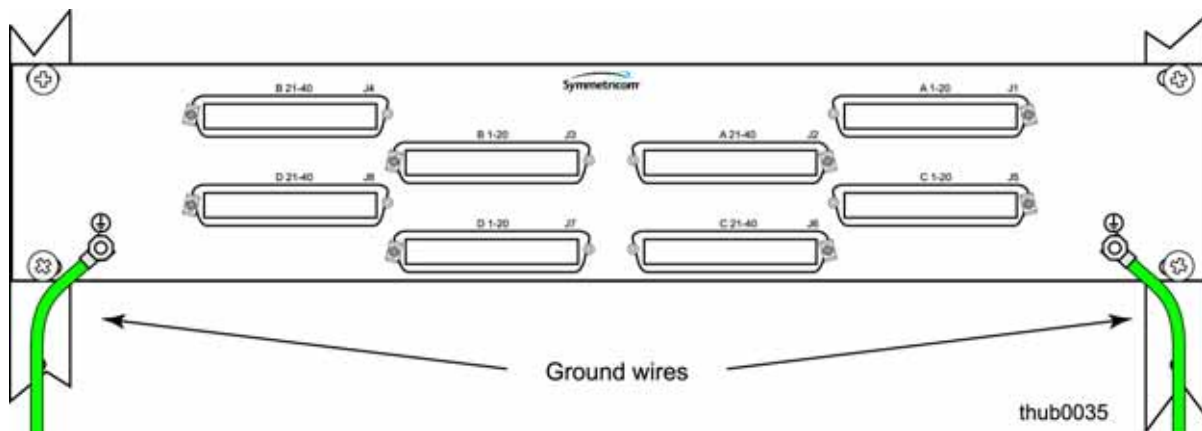

Figure 3-9. Wire-wrap Panel Ground Connection
2. Crimp the supplied spade lug to one end of the 1.5 mm² / 16 AWG wire and connect it to the ground terminals on the front panel of the wire-wrap panel (Figure 3-9).